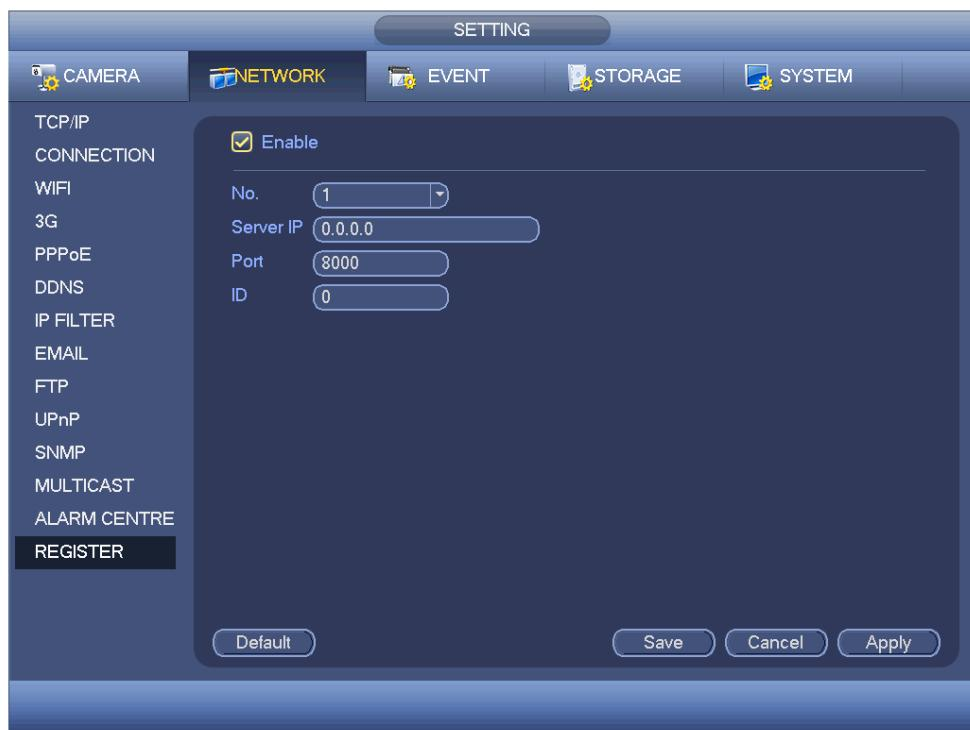

Figure 4-88
1) The setup interface is shown as in Figure 4-88.
- 3) Now you can add device. Please do not input default port number such as the TCP port in the mapping port number. The device ID here shall be the same with the ID you input in Figure 4-88. Click Add button to complete the setup.